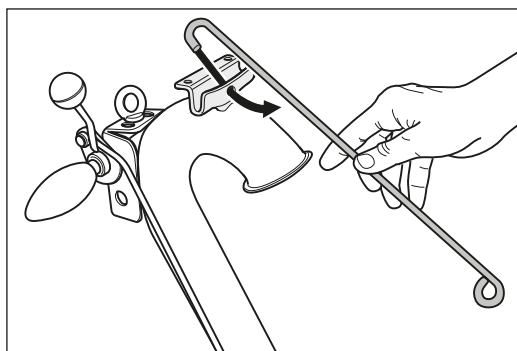

Fig. 12 Hook the cable support into the bracket at the guide tube.
- 6 Hook the cable support into the bracket at the top of the guide tube (fig. 12).